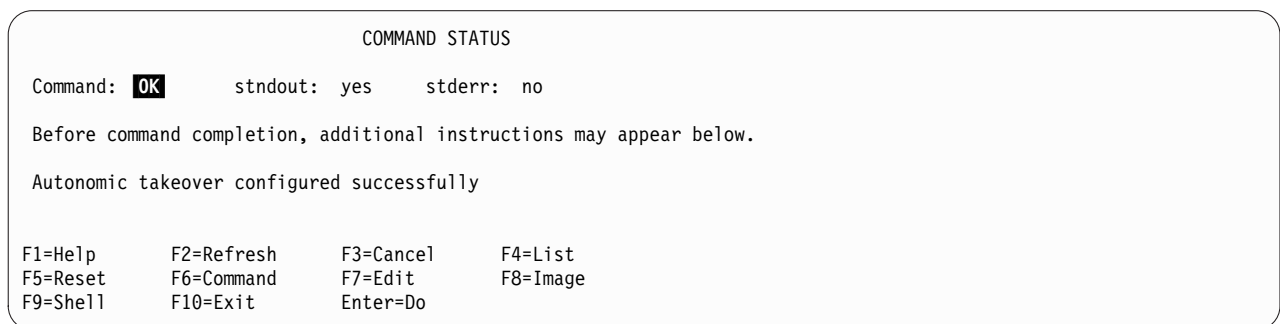

Figure 34. Processing AOTM To a Remote Cluster
8. Press **Enter**. You see Figure 34.